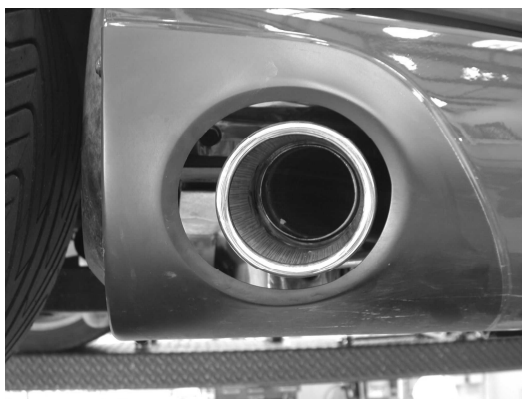

Figure 10
3. Set the side panel into position and move the turnout assembly $\frac{1}{4}$ of an inch from the front of the opening in the side panel as shown in figure 10. This will allow for heat expansion. Remove the side panel and continue on to the installation completion at the bottom of the next page.